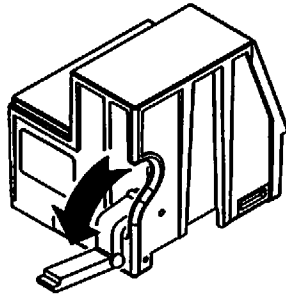

Figure 2-5 Module removal tool
- 2 Lower the release tool on the back of this module (the lever in Figure 2-5) and insert it into the cavity on the bottom right of the module installed in the defibrillator. (The cavity is the area of the module left vacant by the missing release button.)